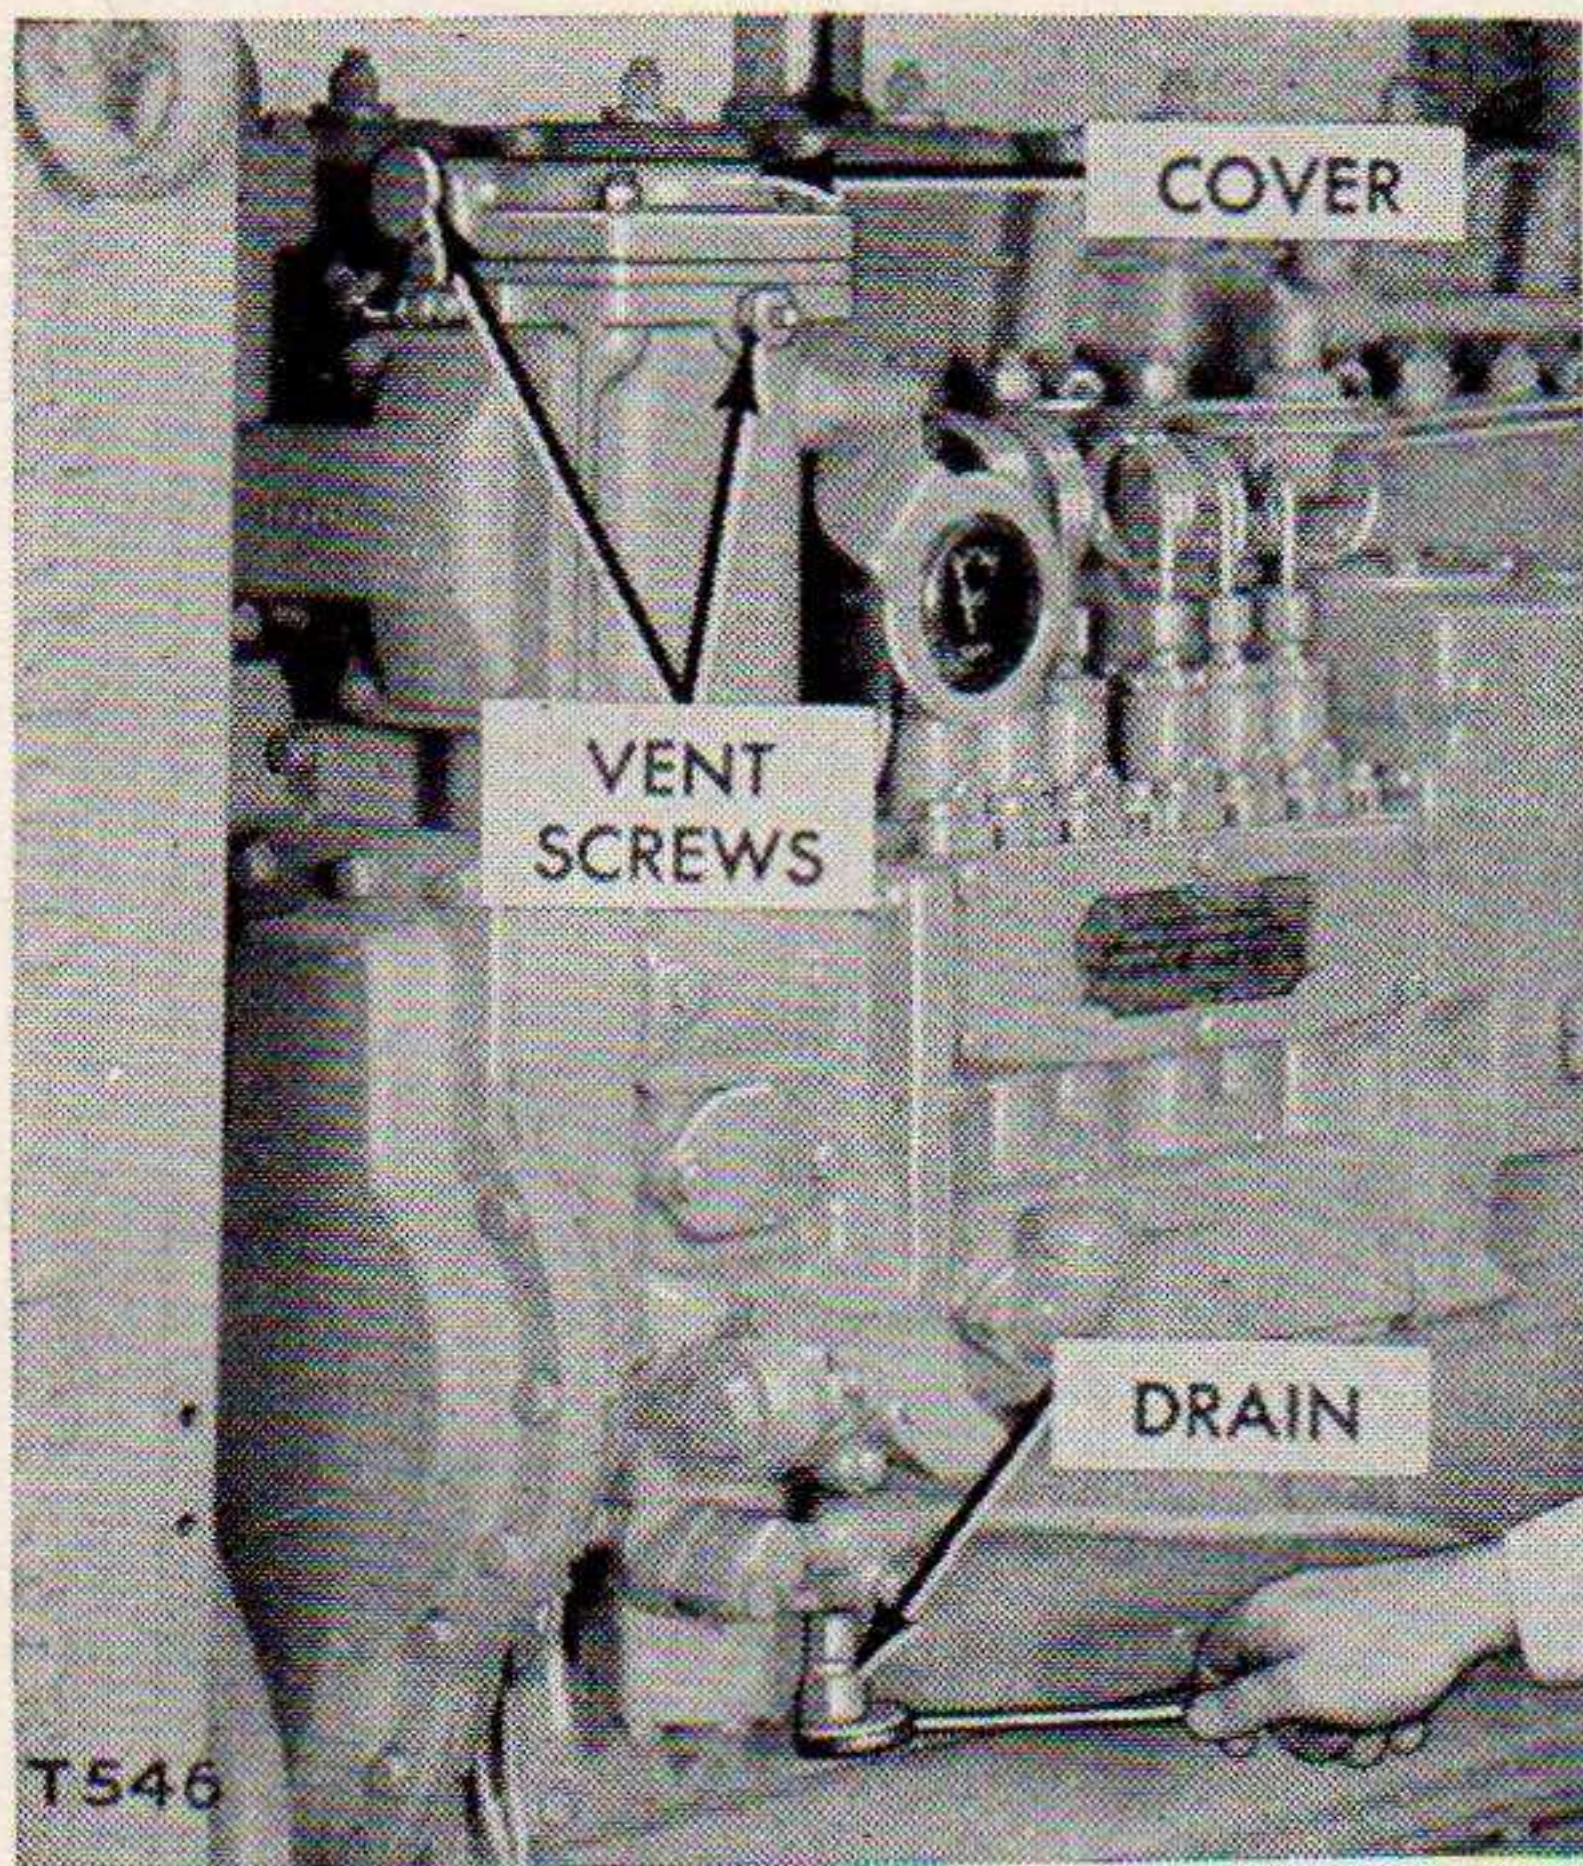

Figure 80. Draining filter housing.
b. CARE. Drain the fuel filter housing every 64 hours to remove the water and sediment. (See fig. 80.)
- (b) *Drain the filter housing.* (See fig. 80.) Remove the drain plug and drain the fuel filter housing.